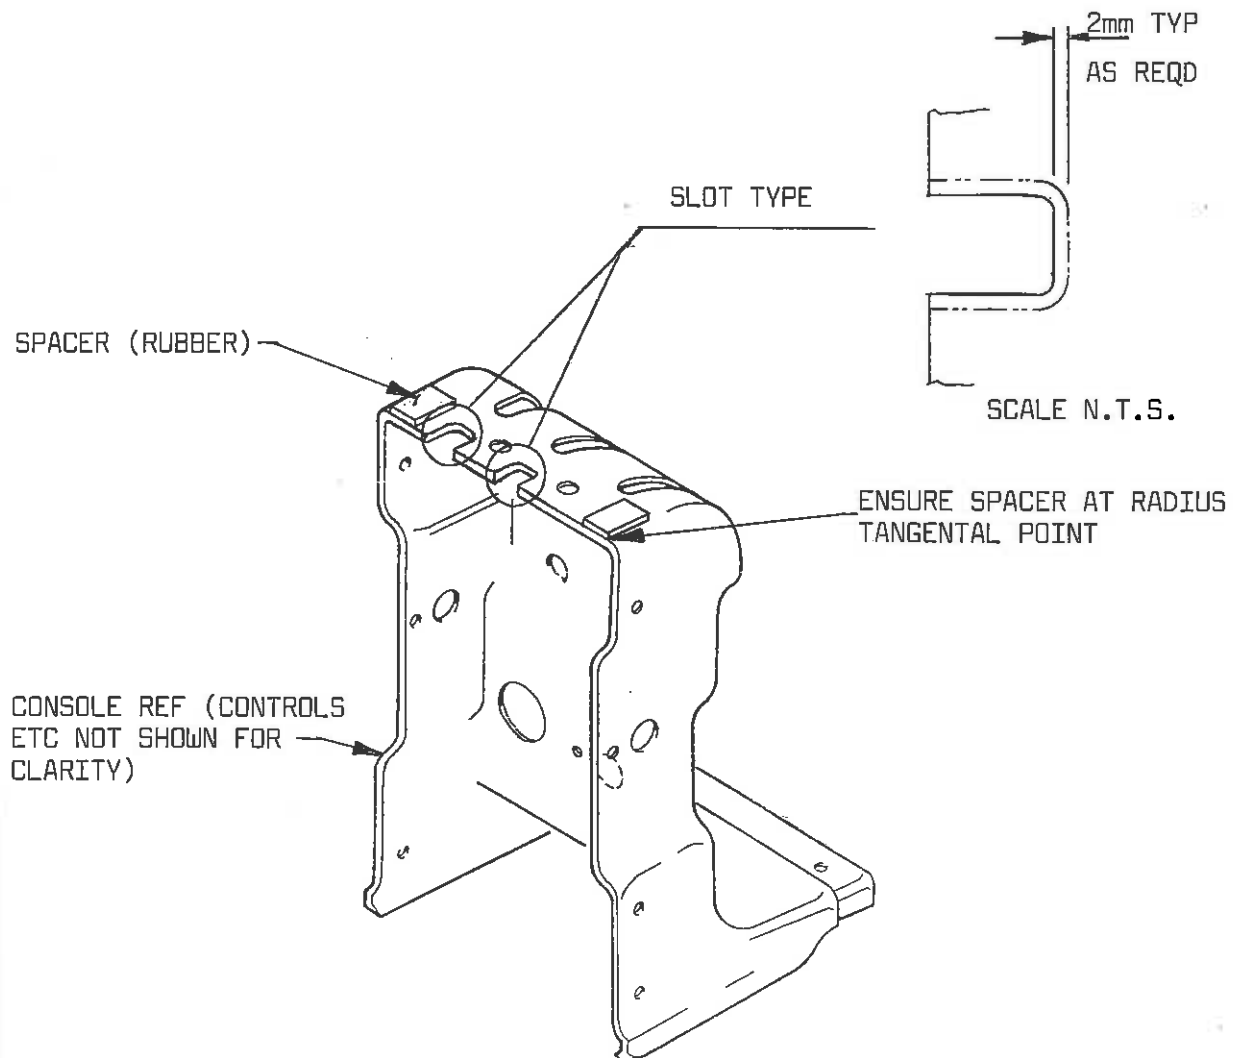

FIG 1
2. Perform visual check for signs of fouling. Operate controls and check clearances, 1mm min required in the area of the cutouts at the front of the quadrant panel, see Fig. 1.
4. If a foul is noted, the slots may be enlarged as per Fig. 1 up to a maximum of 2mm on the side required. Ensure controls are adequately protected during any re-work and a means of extracting dust etc is available.
5. Check position of flat rubber spacers. These should be at the position shown on Fig. 1. If they are not, remove and re-position as shown. Re-bond into position using either Permabond C2 with surface activator (126-51-206/207) or 3M's 1300L adhesive (126-51-211).